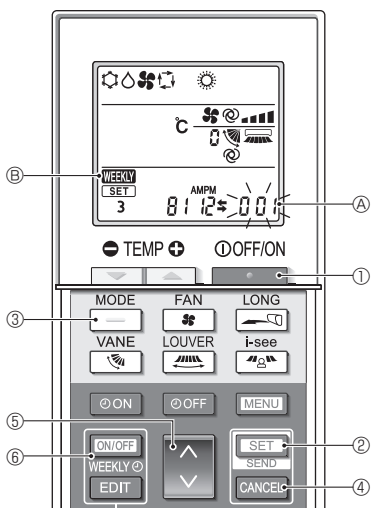

Fig. 4-12
4.12.8. How to disable Auto mode operation (Fig. 4-12)
1. Press the **STOP** button ① to stop the air conditioner.
- If the weekly timer is enabled, press the **ON/OFF WEEKLY** button ⑥ to disable the timer. (**WEEKLY** ⑩ disappears.)
2. Press the **SET** button ② for 5 seconds.
- The unit enters the function setting mode. (The group model setting number ④ blinks.)
3. Press the **UP** button ④.
4. Completing the settings (Fig. 4-12)
- Press the **SET** button ② for 5 seconds.